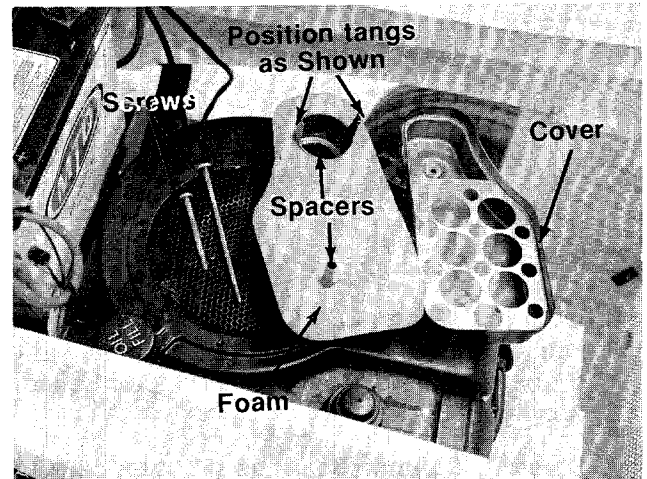

**FIGURE 33.**
After the first five hours of operating a new engine, drain the oil (see figure 33) from the crankcase while engine is still hot and refill crankcase with new oil; thereafter change the oil every 25 hours of operation. This procedure ensures minimum wear of engine parts. To change the oil, proceed as follows:
1. With the machine on level ground, place a suitable metal container under the oil drain plug, then remove the drain plug. See figure 33.